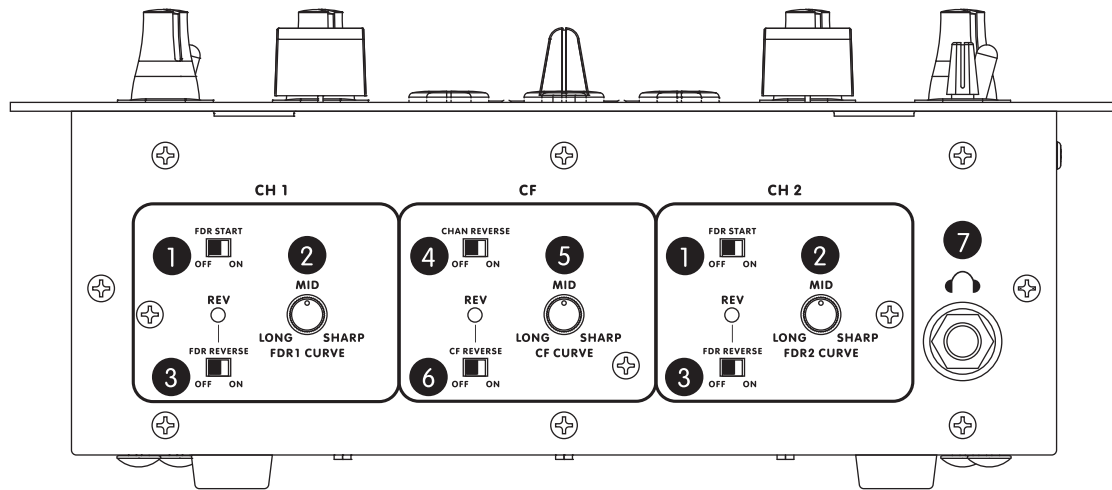

Figure 3.2
First, connect all input sources. Next, connect your microphone and monitor headphones (located in the Front Panel, Figure 3.2). Finally, connect the stereo outputs to the power amplifier(s) and/or audio receivers such as tape decks. Plug your mixer and other devices into AC power. Now, switch everything on in the following order; audio input sources such as turntables or CD players first, then your mixer, and finally any amplifiers.
3.2 M.207 Description - Front Panel (Figure 3.2)
3. **Fader Start:** To use this function you need a CD player with the Fader Start feature and its related cable so you can use the Crossfader to start and stop the CD player. The Fader Start switch (Front Panel, Figure 3.2, 1) activates the Fader Start feature. When the Fader Start switch is in the ON position, this function allows the fader to activate or return to the preset Cue Point on your compatible CD Player.